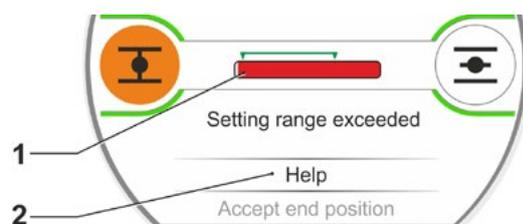

Fig. 11: End position range exceeded
- If the valid setting range is exceeded, the progress bar changes color from green to red (fig. 11, item 1) and the 'Setting range exceeded' message is displayed.
Select 'Help' (fig. 11, item 2) and confirm. An information to change the signaling gear ratio is displayed. Confirm the info box and adjust the sliding wheel within the signaling gear accordingly (also refer to step 7) and repeat end position adjustment.